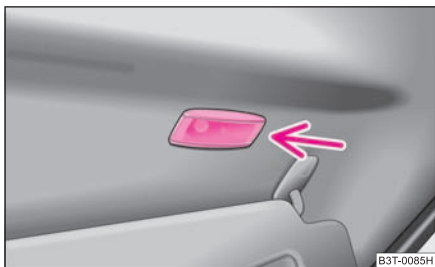

Fig. 228 Lighting for vanity mirror
- Insert a narrow screwdriver into the slot ⇒ fig. 228 and carefully take out the light.